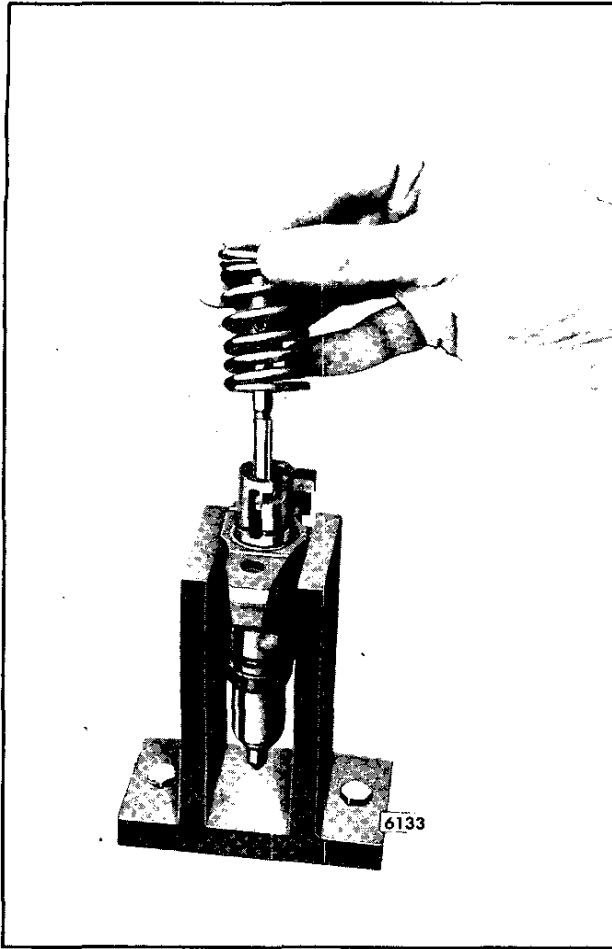

Fig. 9 - Removing or Installing Follower, Plunger and Spring
6. Reinstall the plunger, follower and spring (refer to Fig. 9). The plunger will fit freely into the gear when properly aligned.